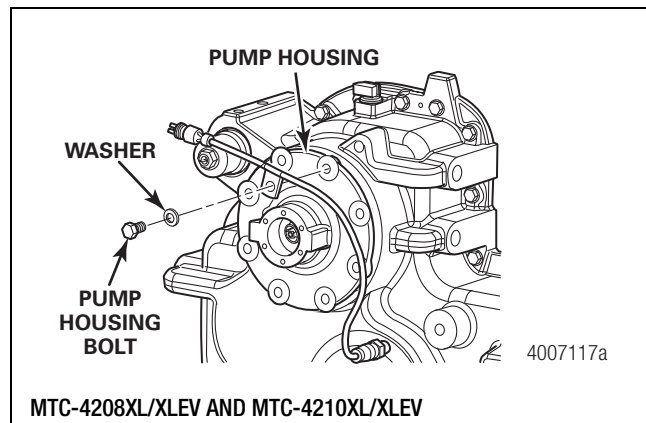

Figure 6.44
- Install the pump housing and align with the transfer case alignment dowels. Tap the cover into place with a mallet. Figure 6.44.